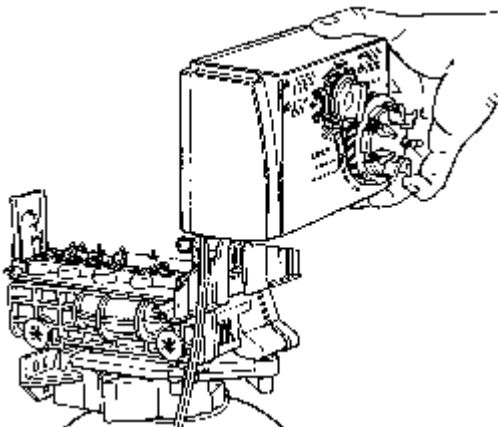

Figure 13
- Lift the timer off the valve, Figure 13.